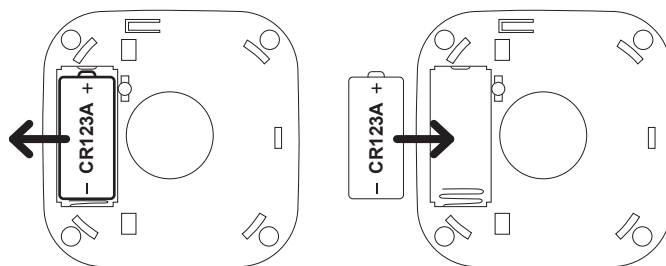

Fig. 2
- The battery should be fitted with the correct polarity (Fig. 2)